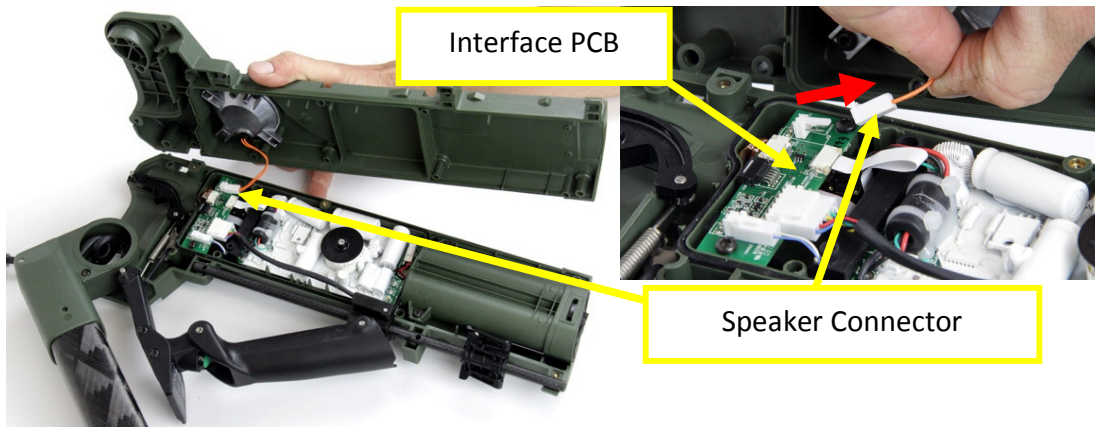

Figure 14: Disconnecting Speaker Connector
- Using fingers gently separate the left and right body halves. The battery end of the detector will come away easily. The shaft end is held by two (2) locating pins and will require more force to separate.
- Gently lift the right side off the left body half taking care not to pull or stretch the speaker cable and connector. Figure 14.
- Locate the speaker connector on the interface PCB and disconnect the speaker from the interface PCB (Figure 14). Remove the right half of the detector body.